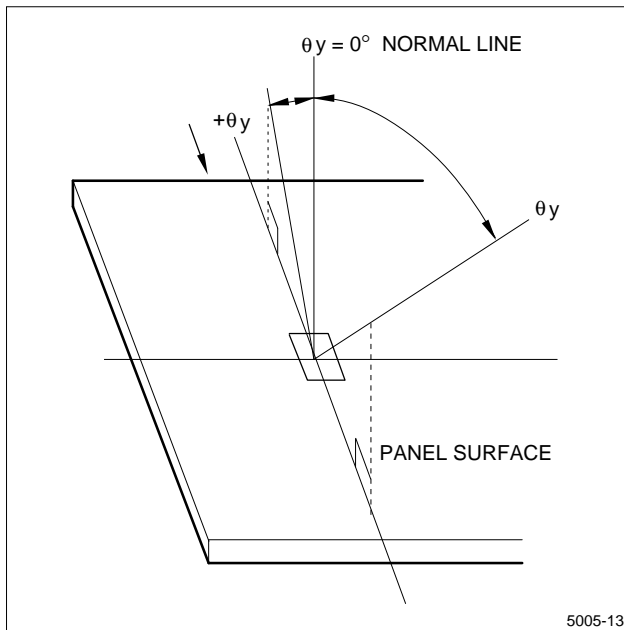

Figure 13. Dot Matrix LCD Viewing Angle
- Industrial (Mechanical) design of the product in which this LCD unit will be incorporated must be made so that the viewing angle characteristics of the LCD are optimized. This unit's viewing angle is illustrated in Figure 13 and as follows: